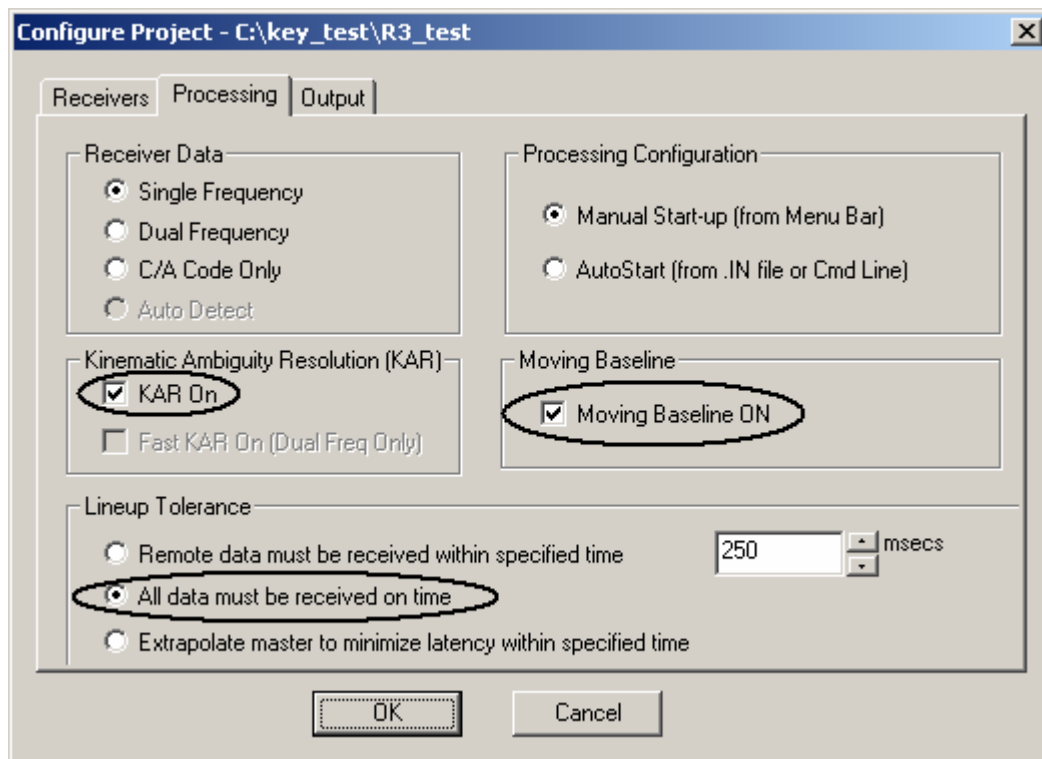

Figure B 9: Processing Options Tab
- Enable moving baseline by adding the **MOVING_BASE = ON** command. Alternatively, this can be done in RtkNav by going to *View / Processing Configuration..* and engaging the **Moving Baseline ON** option under the *Processing* tab. See Figure B 9.
- Make sure that the *Lineup Tolerance* is set to **All data must be received on time** via the *Processing* tab under *View / Processing Configuration....* See Figure B 9.
- Engage kinematic ambiguity resolution by enabling the **KAR On** option under the *Processing* tab via *View / Processing Configuration....* See Figure B 9